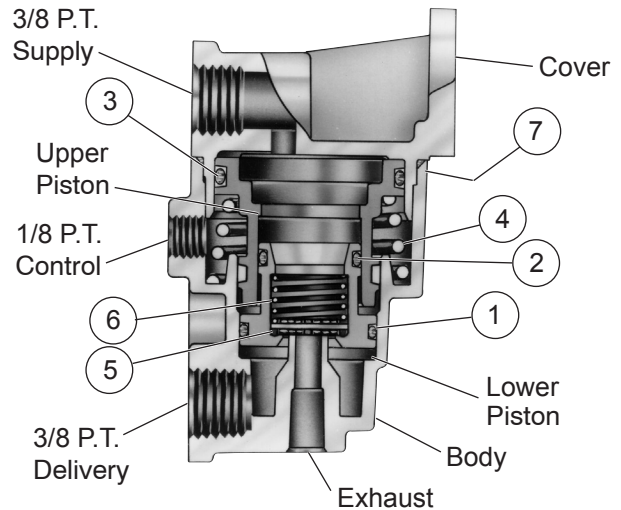

Figure 2
DISASSEMBLY OF BP-1 FRONT VALVE (See Figure 2)
2. Remove the upper piston from the cover and the piston spring (4) and lower piston from the body.
3. With a pair of needle nose pliers grasp the end of the valve spring (6) inside the lower piston and remove it by pulling and turning the spring in a clockwise manner.
4. Remove the inlet/exhaust valve (5) from the lower piston.
5. Remove the o-rings (1), (2), and (3) from the pistons. Discard items 1 through 7 (See Figure 2). (New parts for these items are provided in the kit.)
1. Coat bore surfaces of both the cover and the body of the BP-1 valve with a light film of silicone lubricant (8) provided in the kit.
3. Install the o-rings (1 and 2) on the lower piston, o-ring (3) on the upper piston and o-ring (7) on the cover. (See Figure 2).
5. Place the inlet/exhaust valve (5) into the I.D. of the lower piston and retain with valve spring (6). Use needle nose pliers to install the spring (6) by grasping the spring on the bar that intersects the end of the spring and twisting in a clockwise motion while pressing down. The bar end should be up.
Be sure the inlet/exhaust valve is seated flat against the bottom of the piston and the spring is fully seated below the step on the I.D. of the piston wall. (See Figure 2).